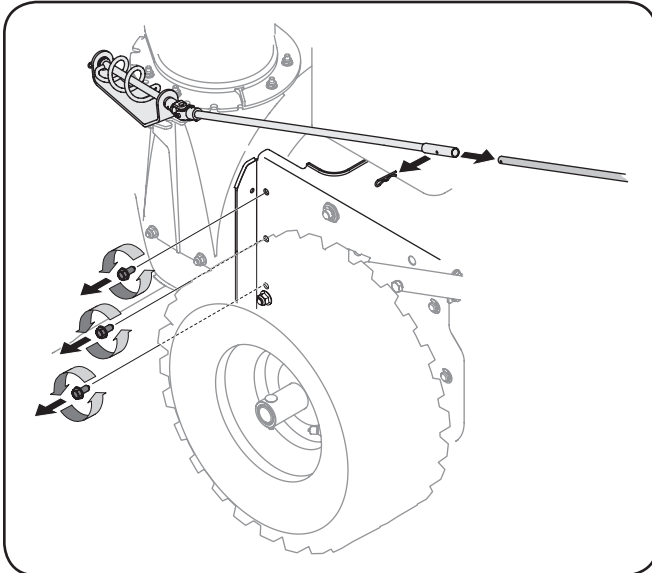

Figure 7-1
1. Remove the cotter pin which secures the upper chute crank to the lower chute crank. Refer to Figure 7-1.
4. From both sides of the frame assembly, use a 1/2" wrench to remove the three hex tap screws securing the transmission frame to the auger housing assembly. Refer to Fig. 7-1. **NOTE:** Do not remove the lower hex flange lock nut on each side.